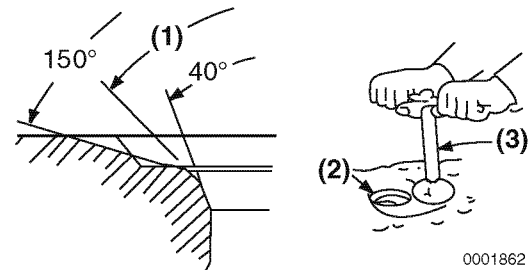

Figure 6-21
Light cutting can be performed by the use of a hand-operated cutter (**Figure 6-21, (3)**).
Valve seat diameter can be adjusted by top-grinding with a 150° stone to make the seat diameter smaller, and bottom-grinding using a 40° stone to make the seat diameter larger. Once the seat location has been corrected, grind and lap the seat angle (**Figure 6-21, (1)**) to specification. See *Cylinder Head on page 6-5 for the service limit*.